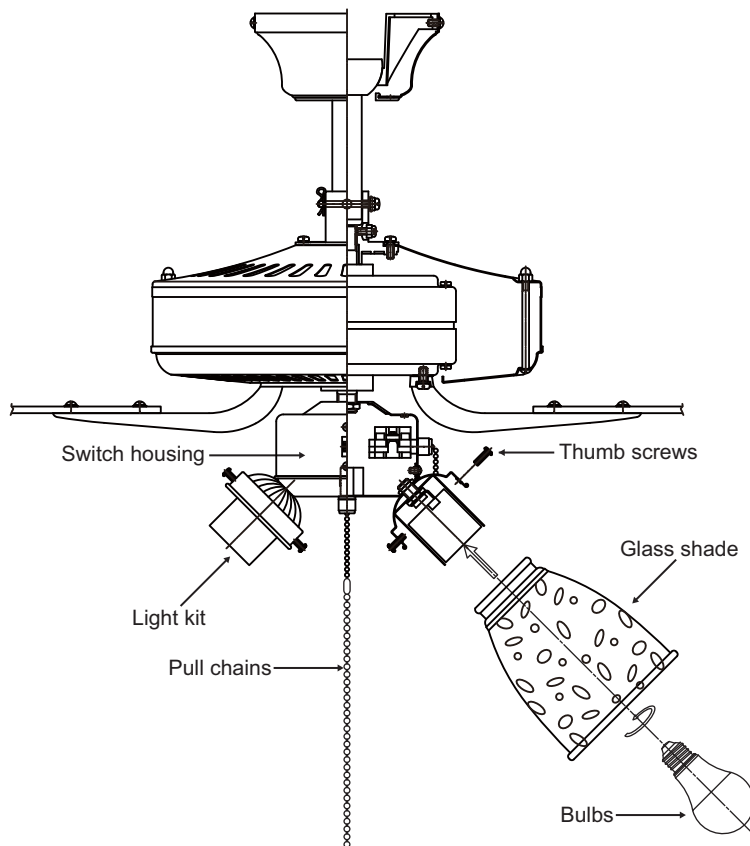

Figure 18
1. Mount the glass shades to the light fixture by unscrewing partway the thumb screws on the glass holders, inserting the glass, then gently tightening the thumb screws by hand evenly to the glass. **DO NOT OVER TIGHTEN.** (Fig. 18)
2. Install 3 x 7W LED bulbs. (provided) (Fig. 18)